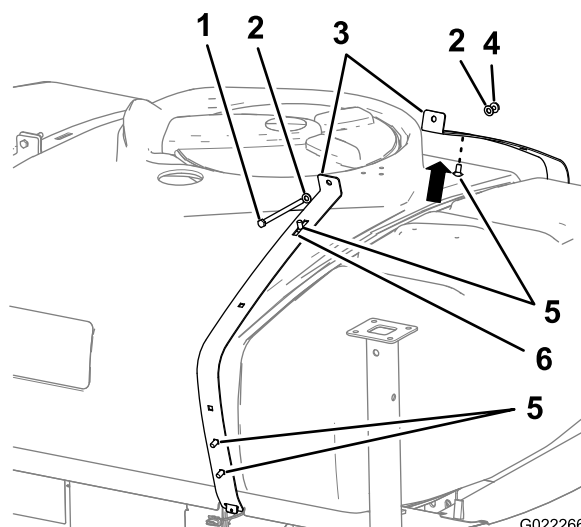

Figure 2
1. Remove the bolts, nuts, and the washers that secure the front tank straps together at the top of the tank (Figure 2).
2. Install 4 carriage bolts to the slots through the inboard side of the front tank straps (Figure 2).
3. Install the tank strap fasteners removed previously to secure the straps to the tank (Figure 2).